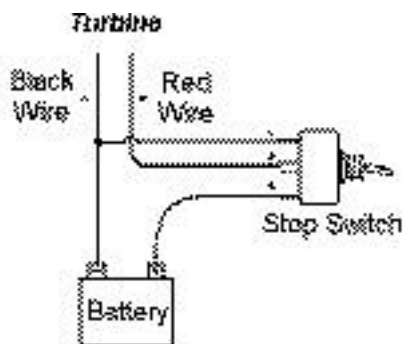

Figure 2 Stop Switch Wiring
- When performing periodic inspections, or at anytime when you must approach the path of the blades, disconnect the power leads from the battery and tie the wind turbine output leads together to stop (*slow down*) the blades from rotating. The turbine can also be shut down through the use of a stop switch. Please refer to Figure 2 on page 13 on how to install a stop switch in your system.